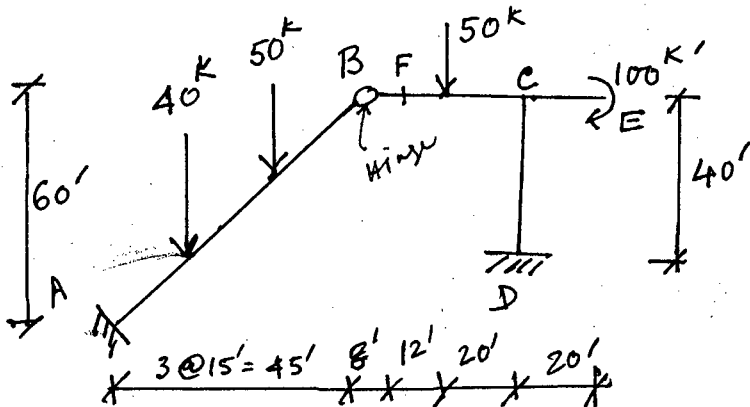

Fig. 10
10. Draw the shear force and moment diagram for the Frame shown in Fig. 10 (21)